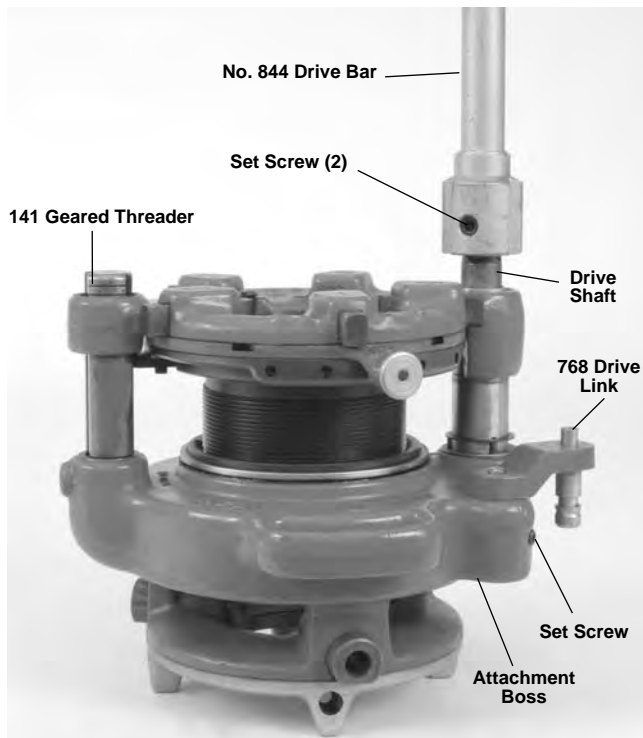

Figure 15 – 844 Drive Bar and 768 Drive Link Installed
8. With the drive shaft of the geared threader up, attach the 844 Drive Bar and securely tighten the two set - screws to retain in place (See Figure 15). For 535A machine, do not attach drive bar at this time.
1. Loosen setscrew in geared threader attachment boss. Install the 768 Drive Link into boss and tighten setscrew to retain (Figure 15). Do not over tighten – the drive link should rotate freely.